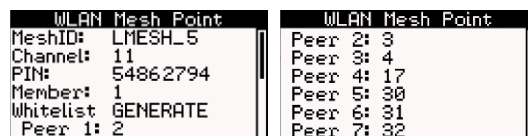

Figure 9: Mesh Point Setup on the LCD Display.
- **WLAN Mesh Point:** This menu allows configuring the Mesh point (see Figure 9). The Mesh ID can be chosen, a radio channel, PIN, and Mesh point ID can be selected. It is also possible to configure the whitelist entries. When choosing **GENERATE**, a default whitelist is generated depending on the Mesh point ID. When saving these settings, the WLAN Mesh point mode is activated on this wireless interface.